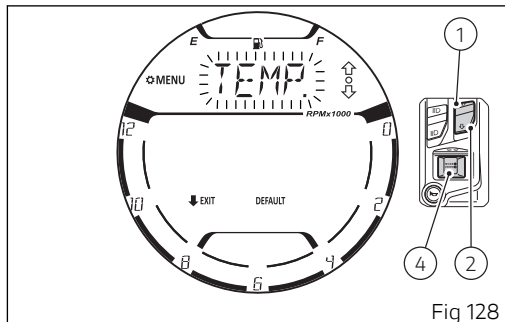
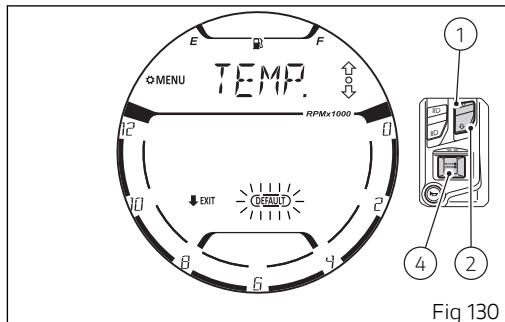

Fig 128
Fig 130
Each time button (1) or button (2) is pressed the instrument panel displays, flashing and in sequence, the "TEMP." setting (Fig 128) and the frame of the "DEFAULT" indication (Fig 130). Afterwards, the "SPEED" indication (Fig 125) will start flashing again.
Use buttons (1) and (2) to select the flashing item "TEMP." (Fig 128) and press button (4).
Press button (4) to confirm. Successively, the display will show the flashing "TEMP.:" indication again (Fig 128).
It is possible to restore the units of measurement of all indications displayed on the instrument panel. Use buttons (1) and (2) to select "DEFAULT" with flashing frame (Fig 130) and press button (4).